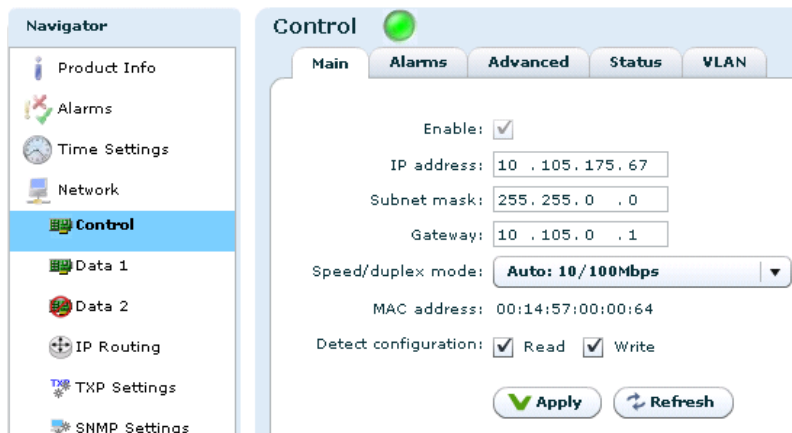

Figure 7.1 Configuring network settings via the Web GUI
3. Browse to Device Info -> Network -> Control in the GUI, and set the correct IP address settings. Click apply to activate the new parameters. Figure 7.1 shows this GUI screen.